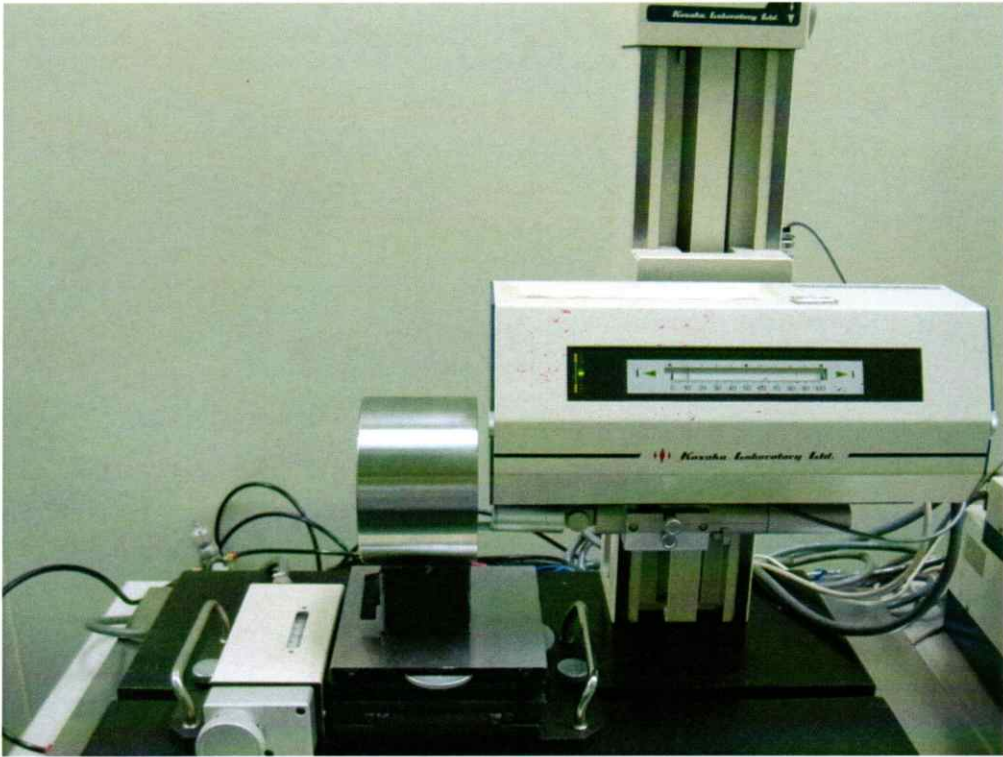
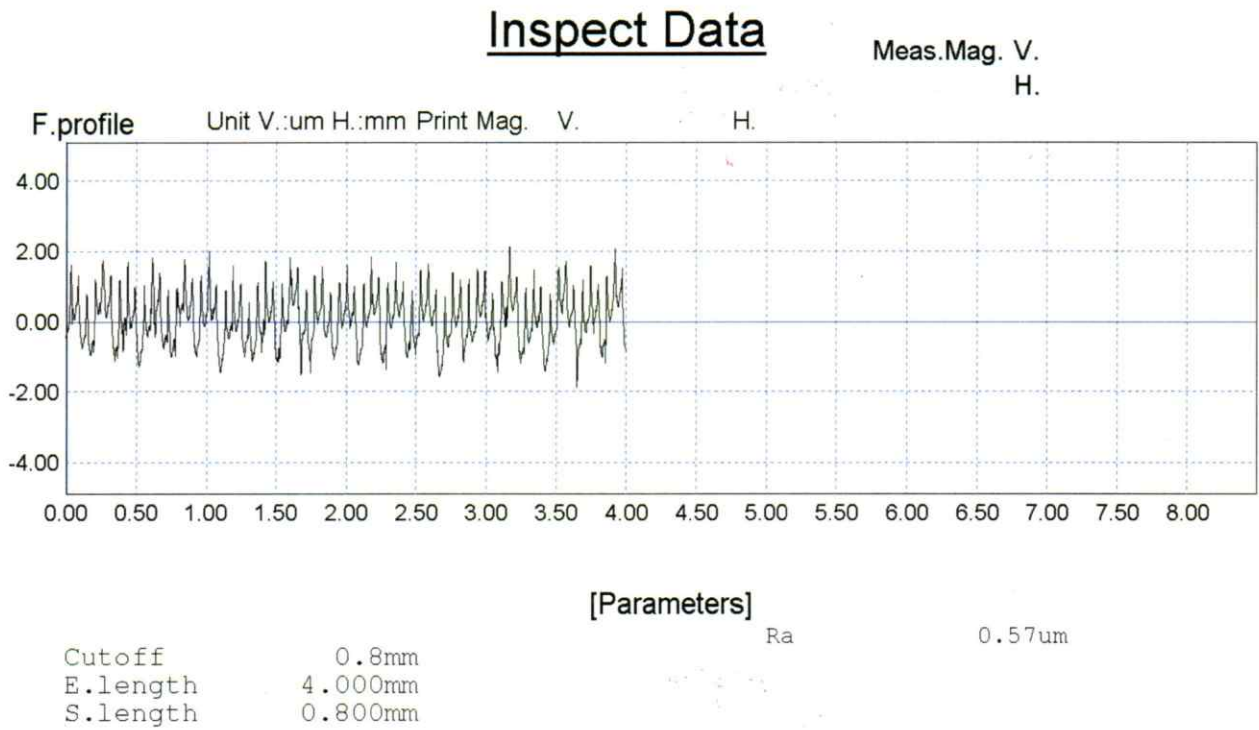

Figure 3-1-4 Actual measurement of surface roughness of the workpiece
Figure 3-1-5 Measurement result of surface roughness of the workpiece
- (1) Activate the executive software and measurement hardware of the surface roughness measuring instrument.
- (2) Fix the workpiece onto the magnetic base which has the V-shaped opening. The magnetic base is fixed onto the measurement table of the surface roughness measuring instrument (as shown in Figure 3-1-4).
- (3) Set the measurement parameters and measurement items of the surface roughness measuring instrument. Refer to the JIS B0601 standard for the setting of measurement parameters. The major measurement parameters are measurement length, reference length and cut-off value. The measurement length is 4mm, the reference length is 0.8mm, and the cut-off value is 0.8mm. The evaluation value is the arithmetic mean roughness (Ra).
- (4) Adjust the X and Y axes positions of the measurement table, and the Z axis position of the stylus of the surface roughness measuring instrument. When the stylus contacts with the inner bore of the workpiece and the stylus reaches the stable measurement status, start measuring the surface roughness of the workpiece and record the measurement result.
- (5) The inspection result of the surface roughness of the workpiece is Ra 0.57 μ m (as shown in Figure3-1-5).